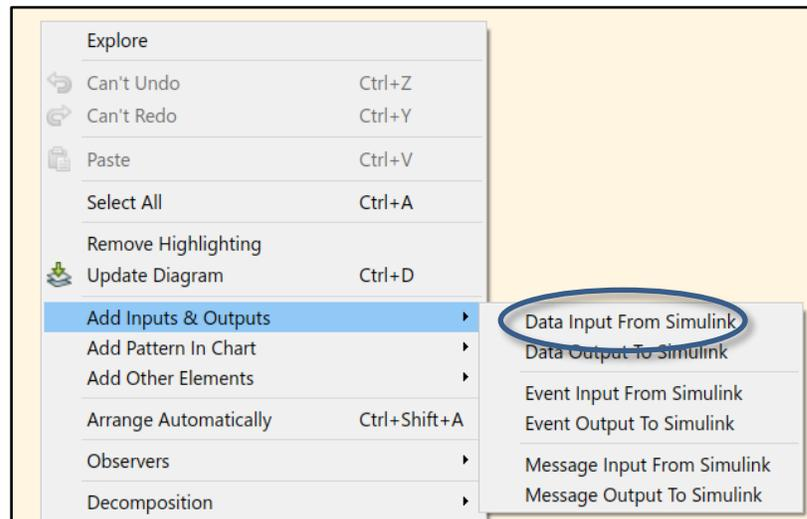
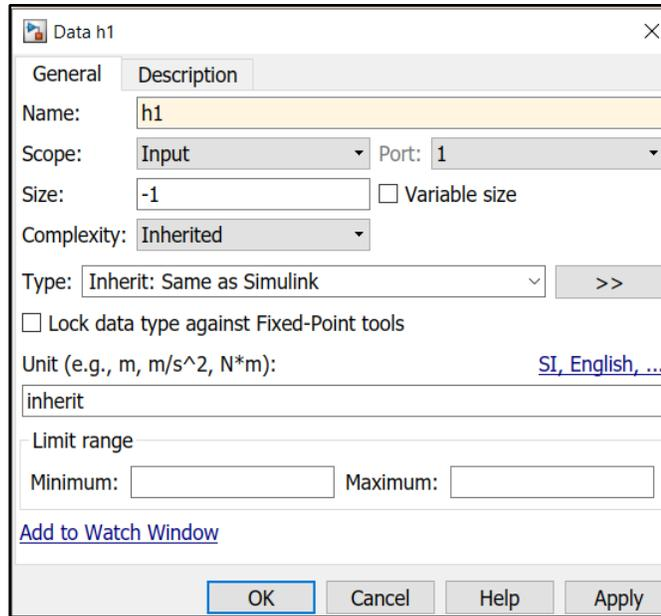

Figure 16. Right-click to generate the menu.
Figure 17. Modify entries for Stateflow data.
- a) [Right-click] to generate the menu set shown in Figure 16, then select **[Add Input & Output]**→**[Data Input...]** to generate another window as shown in Figure 17.
b) Modify the following entries of “Name”, “Scope”, “Port”, “Complexity” and “Type” to those shown in Figure 17.
Method 2: **[Right-click]→[Explore]→[Add]→[Data]**. Then modify the table entries appearing in the right portion of the “explore” window to entries shown in Figure 17.